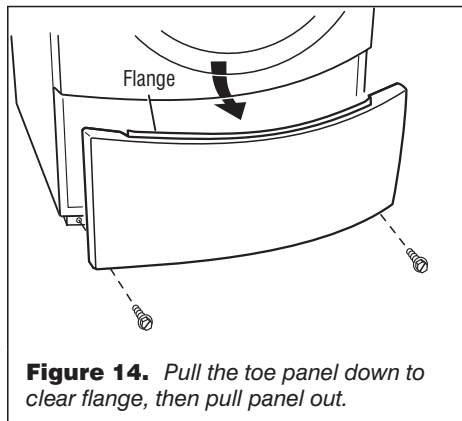

**Figure 13.** Door switch location.
- Check that the wires between the door switch and machine control electronics are connected. See figure 13 for switch location, and see Accessing and Removing the Electronic Assemblies, page 10.